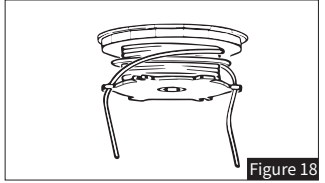

Figure 18
- Press the spool cover and line spool together until they click into place in the housing (see Figure 18).